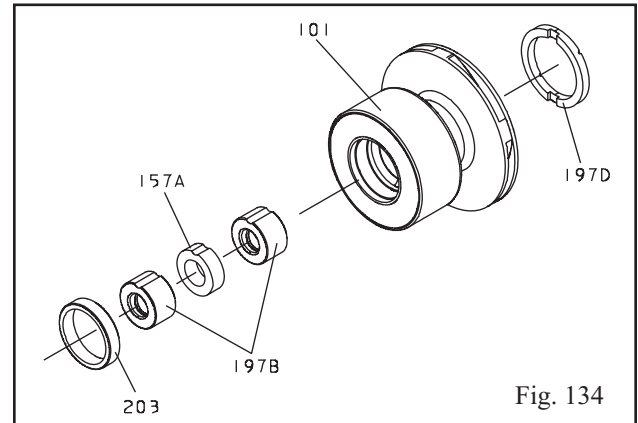

Fig. 134
3. Slide bearing spacer (157A) into impeller (Fig. 134).
4. Press second radial bearing (197B) into impeller (Fig. 134).
5. Press back impeller wear ring (203) into impeller assembly (Fig. 134).
6. Turn impeller over and install impeller thrust bearing (197D). Line up the two slots in the impeller thrust bearing to the two tabs in the impeller (Fig. 134).